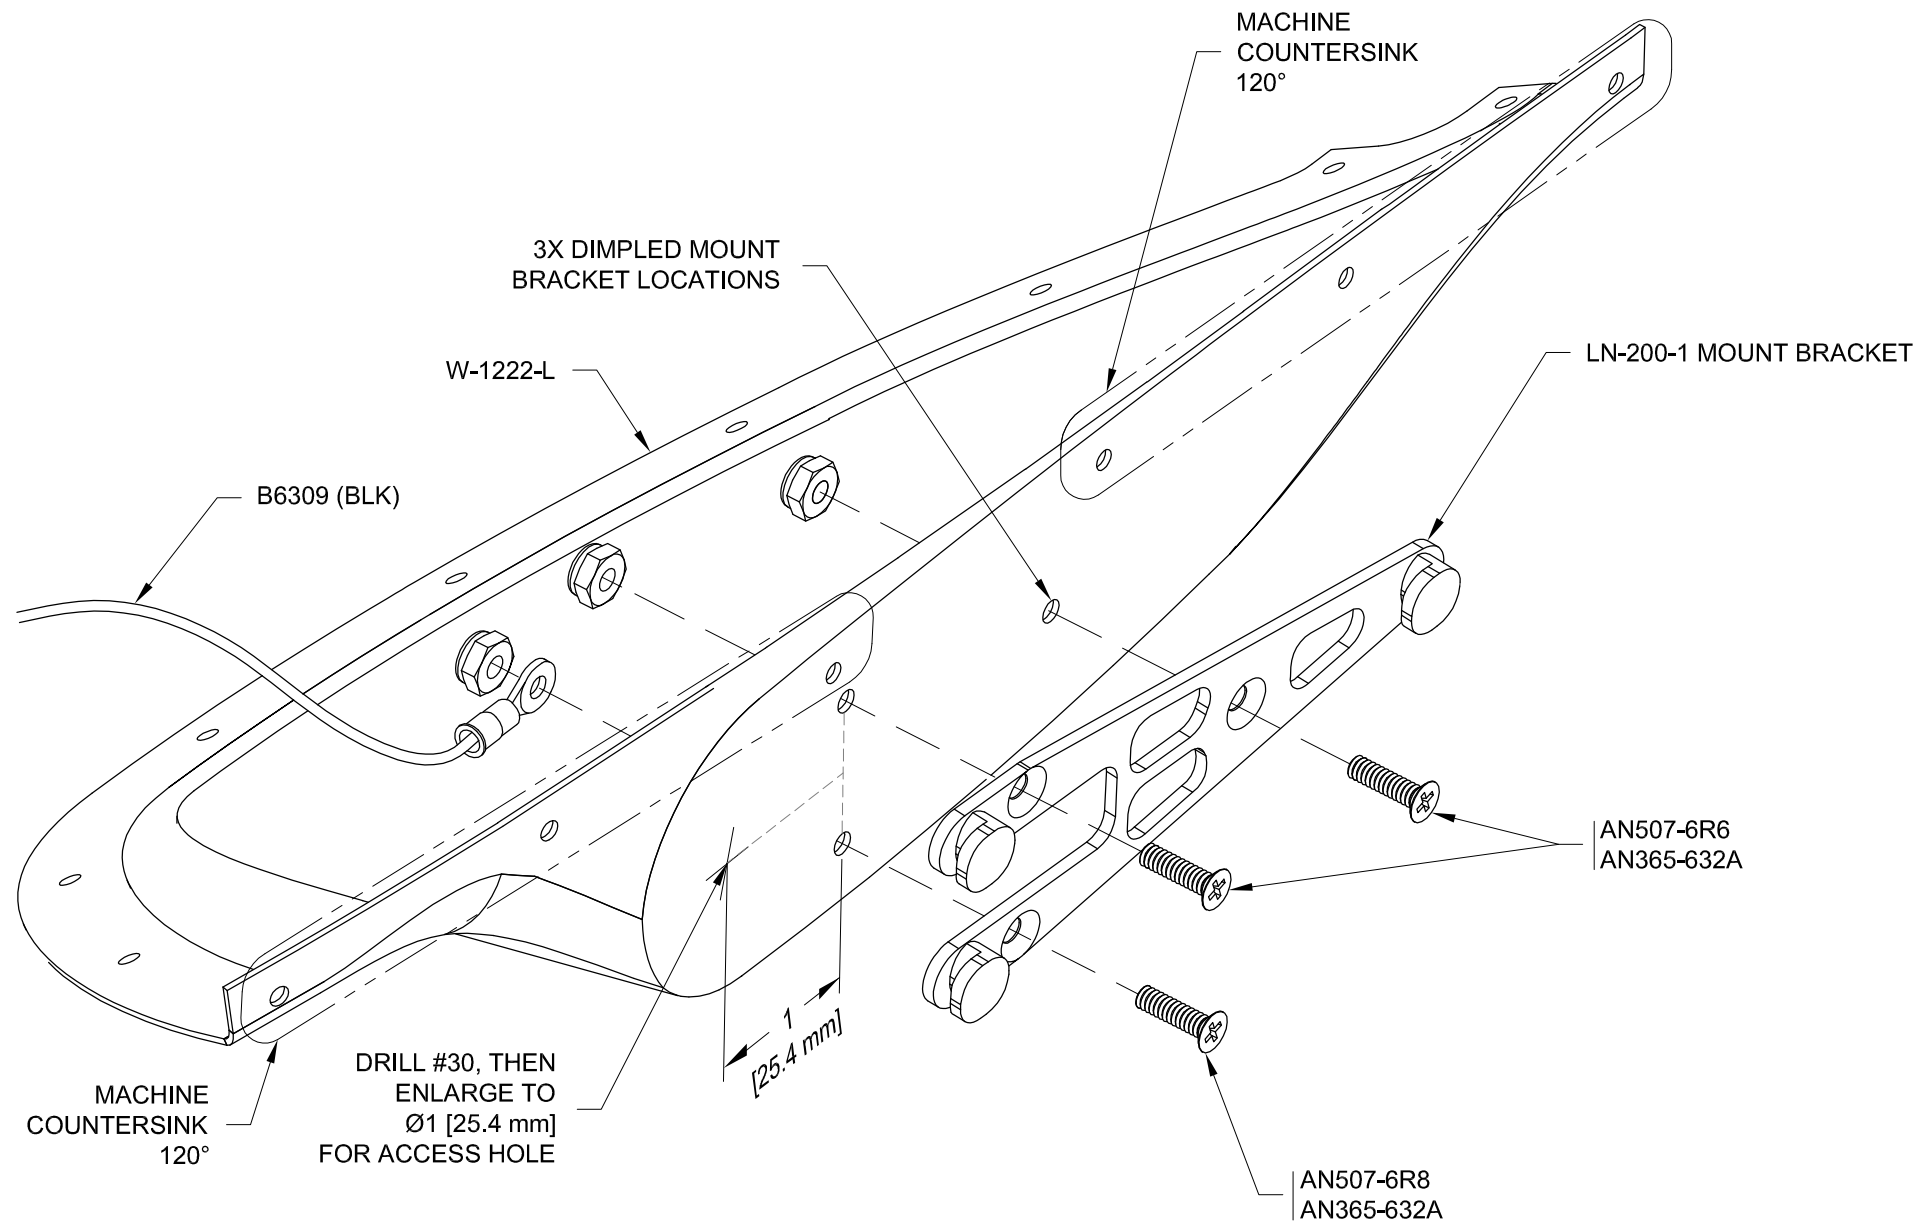

FIGURE 1: FINISHING THE EXTENSIONS
Step 4: Attach the LN-200-1 mount brackets to the W-1222-L & -R using the hardware shown in Figure 1. The bottom fastener should capture the ring terminal of the B6309 (BLK).
Step 2: Add a layer of electrical tape onto the W-1204D-L & -R offset from the lower flange of the W-1222-L & -R by 1/32 in. [0.8 mm]. See the coarsely hatched area in Figure 1.
Step 3: Cut a narrow strip of electrical tape then add it along the edge of the W-1222-L & -R. See the finely hatched area in Figure 1.